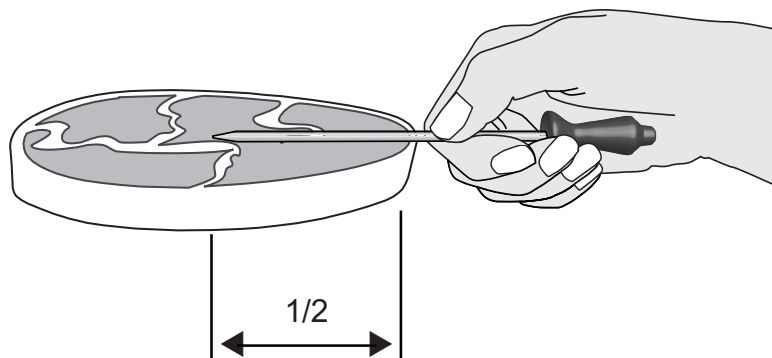

Fig.1
- For bone-in ham or lamb, insert the probe into the center of the lowest large muscle or joint . For dishes such as meat loaf or casseroles, insert the probe into the center of the food. To find the center of the food visually measure with the probe (See Fig. 1). When cooking fish, insert the probe just above the gill.